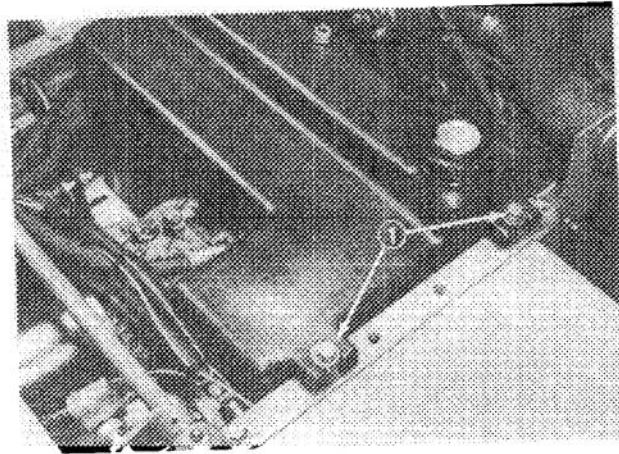

Figure 66
5. Remove capscrews, lockwashers and flatwashers securing fuel tank to top of frame (Fig. 66). However, do not lift fuel tank out of chassis at this time.
1. Set fuel tank into position and secure it in place with capscrews, lockwashers and flatwashers (Fig. 66).